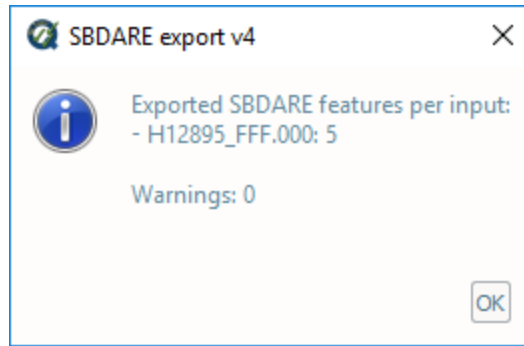

Fig. 2.30: SBDARE export's output message.
- After computing, the output window opens automatically, and the results are shown. Any errors that occur while processing will appear in the output message. (Fig. 2.30):